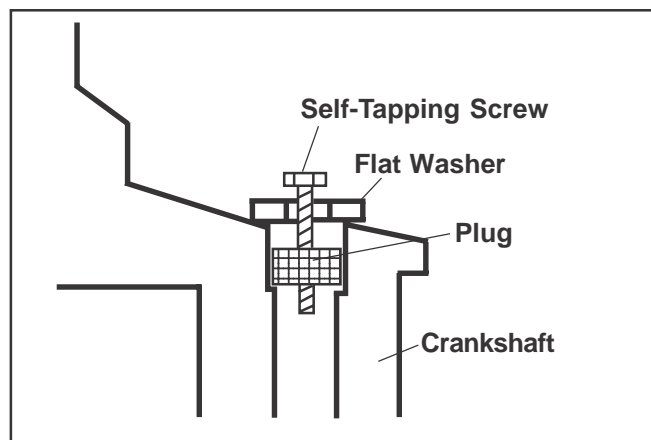

Figure 9-2. Removing Crankpin Plug.
2. Thread a 3/4" or 1" long self-tapping screw with a flat washer into the drilled hole. The flat washer must be large enough to seat against the shoulder of the plug bore. See Figure 9-2.